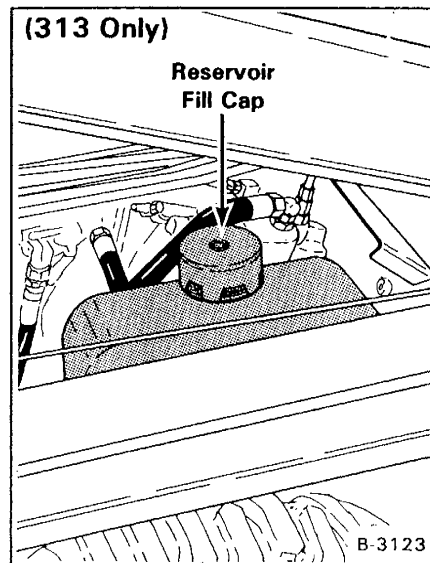

Fig. 1-26 Hydraulic Reservoir/Fill Location
A belt driven gear-type hydraulic pump is used to supply hydraulic fluid to the control valve to operate the lift and tilt cylinders and the auxiliary function. Hydraulic fluid is stored in a reservoir located under the operator guard (Fig. 1-26). The hydraulic fluid is cleaned by a 10 micron filter which is located at the rear of the loader (Fig. 1-28).
- (1) Open the rear door.
- (2) Put a bucket under the hydraulic filter and use filter wrench to remove filter element.
- (3) Let oil flow from the filter mounting base into the bucket until the reservoir is empty.
- (4) Put oil on the rubber gasket of the filter element and install the filter element on the mounting base and tighten it hand tight.
- (5) Remove the front nuts and bolts for the operator enclosure and lift it up and toward the rear of the loader.
- (6) Remove the breather cap from hydraulic reservoir (Fig. 1-26).
- (7) Open the level check valve at the reservoir. Add Recommended fluid to the reservoir until it flows out of open check valve.
- (8) Close the check valve and put additional quart (.946 L) of fluid into the reservoir.
- (9) Replace breather cap. Lower and fasten operator enclosure.
- (10) Start the engine. Check for hydraulic leaks. Repair any leaks.